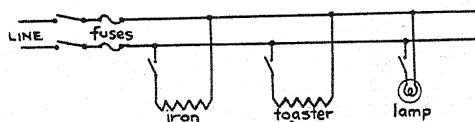

FIG. 8. Parallel circuit of home equipment.
14. Parallel Circuits. Parallel circuits are very common in household wiring. All the various lamps, the iron, the toaster, etc., in the average house are really in parallel connection, on the main line, as shown in Figure 8.
Figure 8 shows clearly that parallel circuits have more than one possible current path. These various paths are commonly called branch parts of the circuit. Each branch connects across the main line. Therefore, all branches are in parallel.
In Figure 8, if the iron draws 5 amperes, the toaster 3 amperes, and the lamp only 1 ampere, when all three units (or branches) are in use, the main line will have to supply a total of 9 amperes ($5 + 3 + 1$). None of the current in any one branch of a parallel circuit passes through any other branch.
15. Ohm's Law in Parallel Circuits. In applying Ohm's law to a parallel circuit, the caution of keeping all values of amperes, volts, and ohms referring to the same part of the circuit, must be observed. Figure 8 may be used to make this clear.
By similar reasoning, in the case of electrical resistors, connected in parallel, it may be shown that the total resistance of several parallel branches (such as in Fig. 8) is less than the resistance of the smallest single resistor branch.